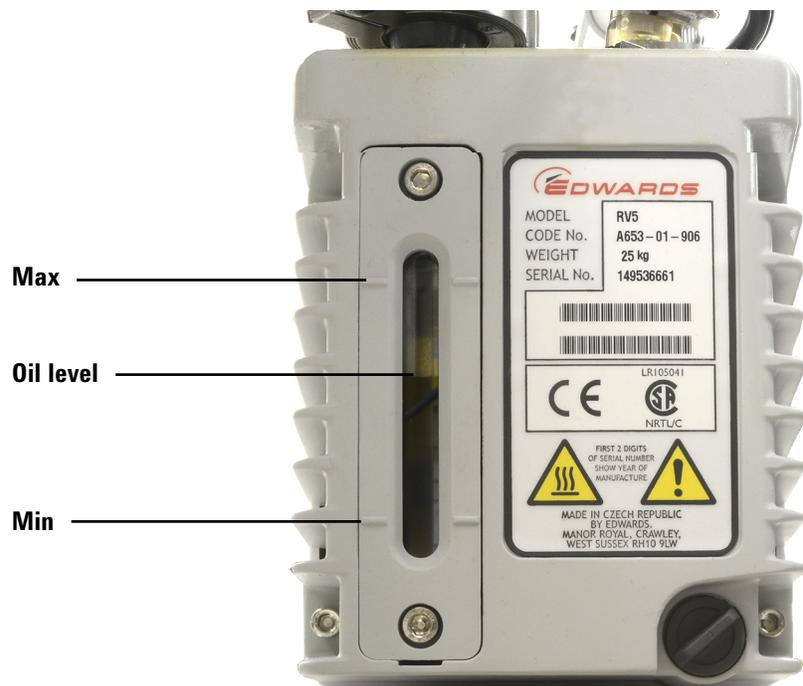

Figure 12 Checking the oil level
- 4 Add new pump oil until the oil level is near, but not over the maximum mark beside the oil level window. See Figure 12 on page 77.
- 6 Add new pump oil until the oil level is near, but not over the maximum mark beside the oil level window. See Figure 12 on page 77.